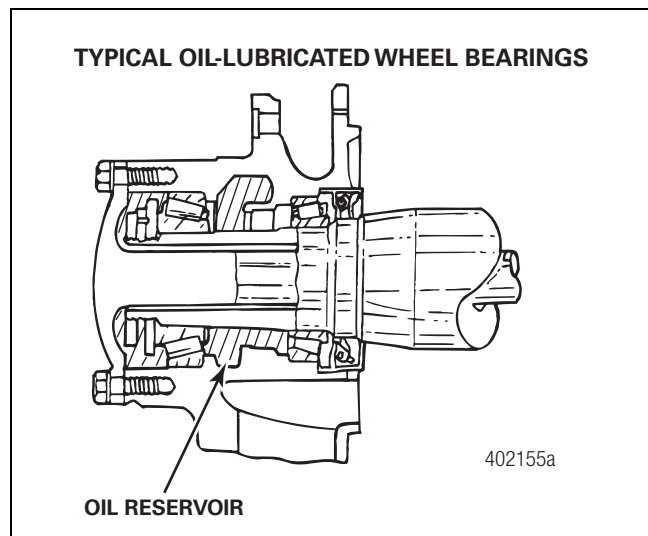

Figure 10.2
3. Remove the oil fill plugs. Fill each hub cavity with two pints (1 L) of rear axle lubricant. Figure 10.2.
- Verify the vehicle is unloaded. Ensure the tilt of the vehicle does not exceed the maximum allowable angle. Raise one end of an axle 11-12-inches (28-31 cm). Hold the axle in that position for at least 15 minutes to allow the oil to flow out to the wheel hub. Repeat the procedure on the other end of the axle. Figure 10.2.